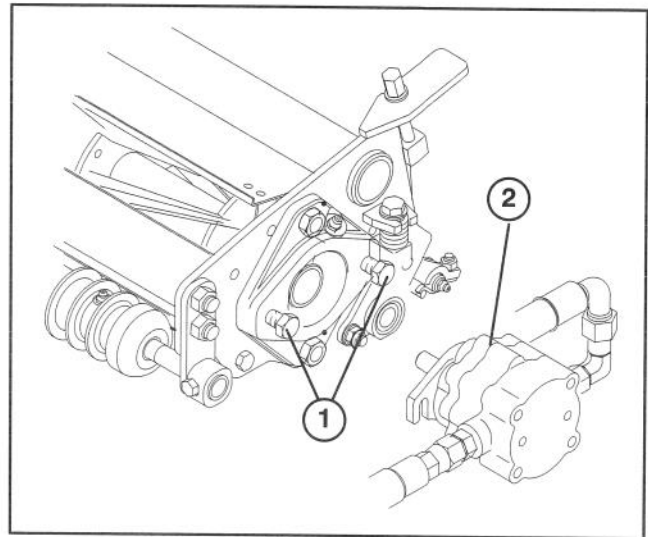

Figure 10
4. Assemble the mounting capscrews for the reel drive motor to each cutting unit. Leave approximately 1/2 in. of threads exposed on each mounting capscrew (Fig. 10).
7. Coat the spline shaft of the motor with clean grease and install the motor by rotating the motor clockwise so the motor flanges clear the studs. Rotate the motor counter-clockwise until the flanges are encircling the studs and tighten the mounting capscrews (Fig. 10).